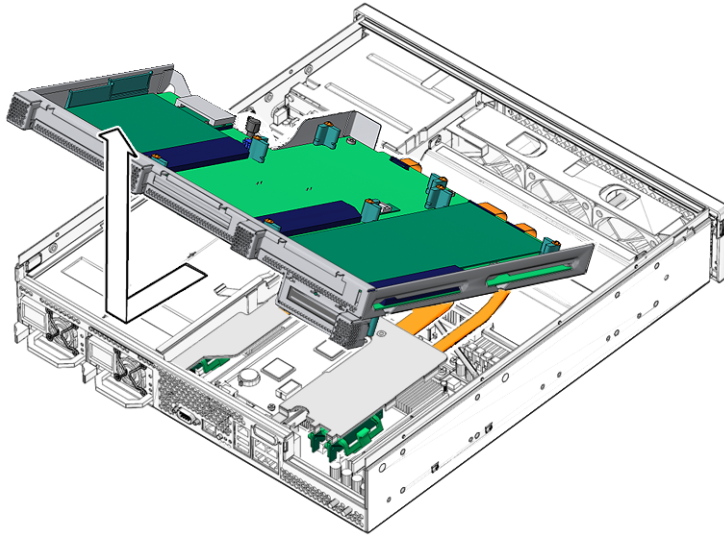

FIGURE 3-7 Lifting the PCI Tray
2. Slide the PCI tray back about 1 inch (25 mm) and lift up on the back edge (FIGURE 3-7).